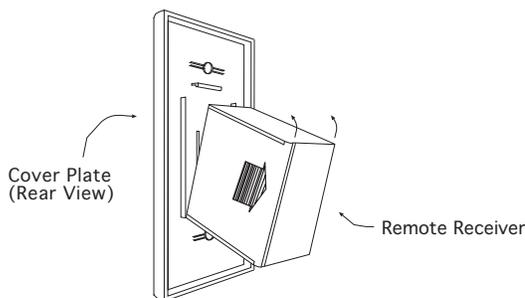

Fig. 12 Wall plate to Receiver
**Next**, attach wall mount cover plate to receiver box (Fig. 12):